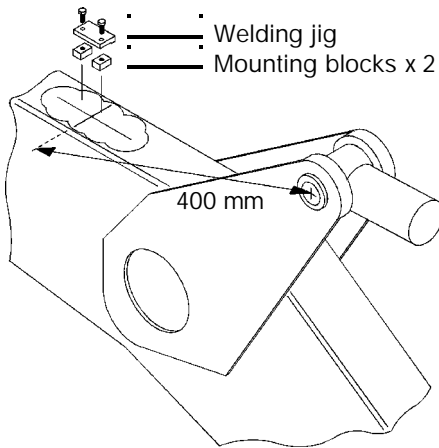

Figure 4 Fitting the Sensor Mounting Blocks
2. Bolt the Sensor Mounting Blocks onto the welding jig and clamp the assembly centrally over the mark (fig.4).